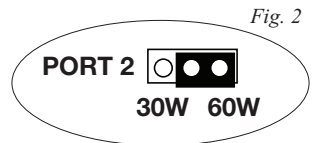

Fig. 2
- Port Configurations (Fig. 2, pg. 4; Fig. 5b, pg. 9):**